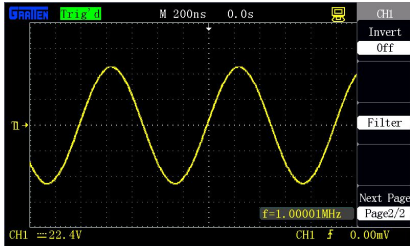

Figure 2-14 Inverse OFF
- Press [CH1]→“Inverse”→“OFF”, as shown in figure 2-14.